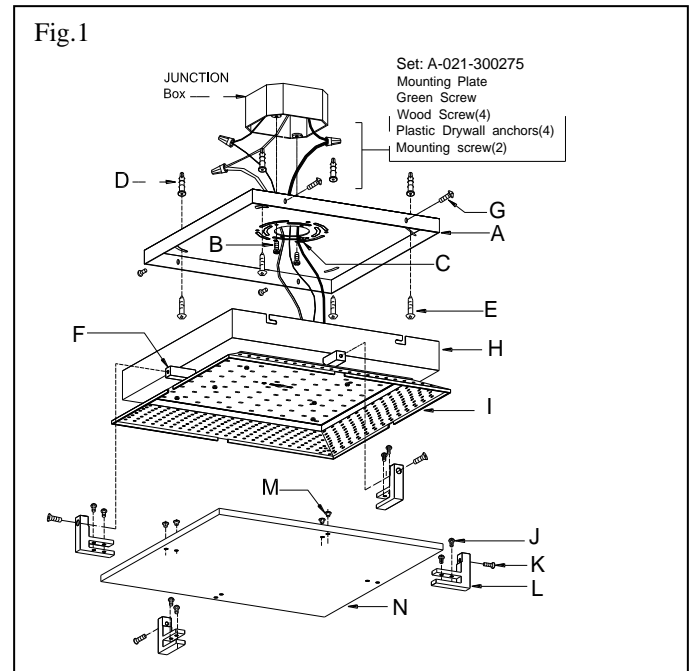

Fig.2
CONNECTING THE WIRES (Fig. 2)
- Connect the electrical wires as shown in Fig.2, making sure that all wire nuts are secured. If your outlet has a ground wire (green or bare copper), connect the fixture's ground Wire to it. Otherwise, connect the fixture's ground wire directly to the mounting plate (A) using the green screw (C) provided.